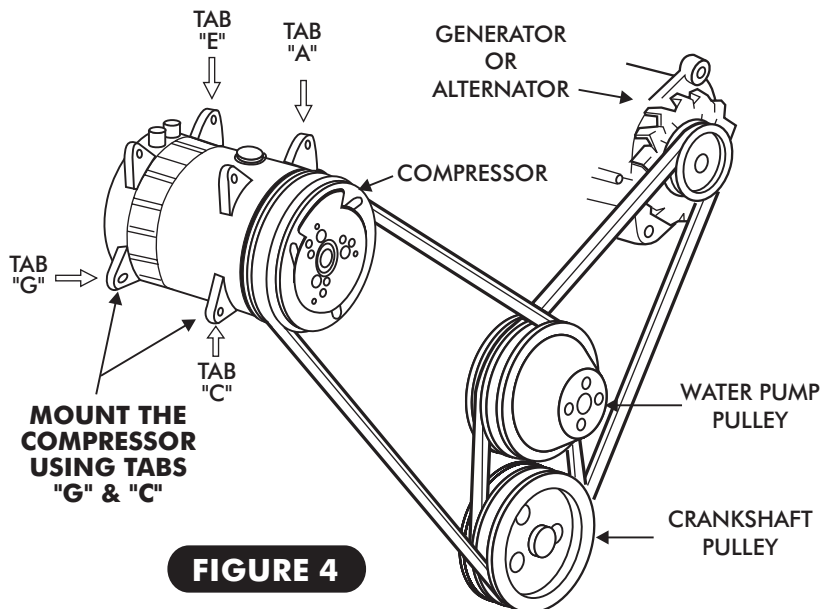

FIGURE 4
- REFER TO SEPARATE INSTRUCTIONS INCLUDED WITH THE BRACKET KIT TO INSTALL THE COMPRESSOR BRACKET. REFER TO FIGURE 4 BELOW FOR COMPRESSOR MOUNTING POSITION.
- IN MOST INSTANCES EXISTING BELT LENGTHS WILL REMAIN THE SAME. SEE FIGURE 4 BELOW.